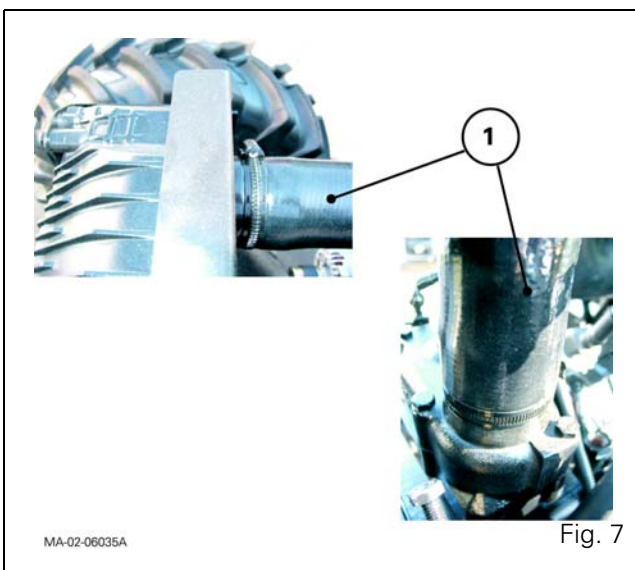

Fig. 7
- 14.** Disconnect the upper radiator hose (1) (Fig. 7).